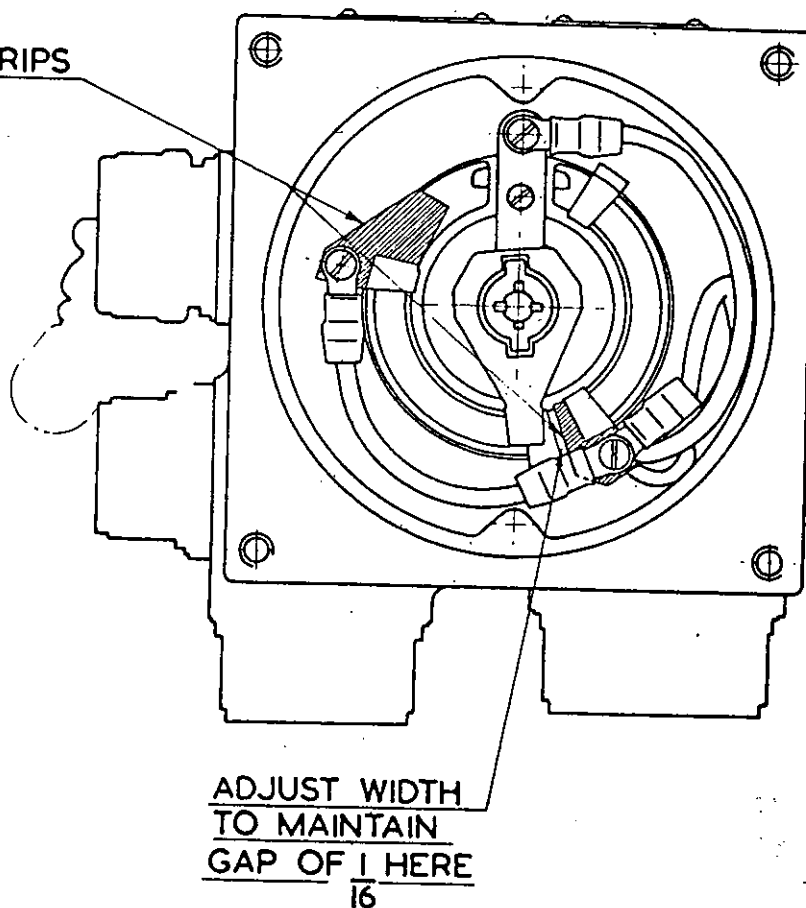

Fig 5 - Rheostat, contact strips fitted
- j. See Fig 5: Fit the two manufactured contact strips to rheostat (19555) as shown.